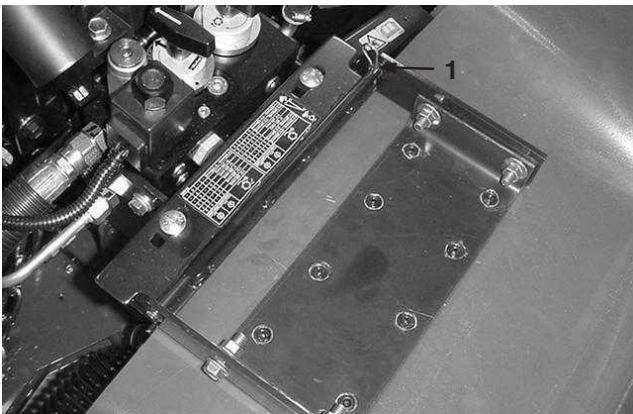

Figure 44
2. Remove the cotter pin securing the hood pivot to the mounting brackets (Fig. 44).